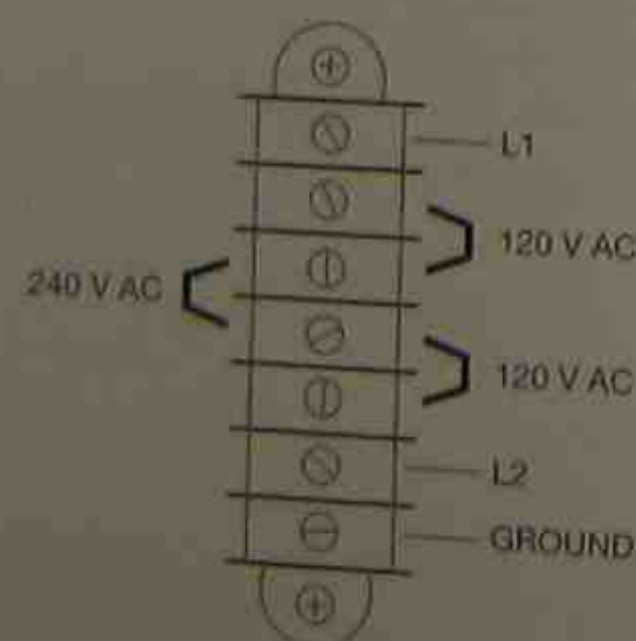

Figure 20-1 Power Supply Terminal Strip With Jumper Positions Indicated
- Step 1.** Verify that the incoming power matches the jumper selected voltage setting of the power supply. Figure 20-1 shows a typical AC power terminal strip with the jumper position indicated at the sides of the strip.